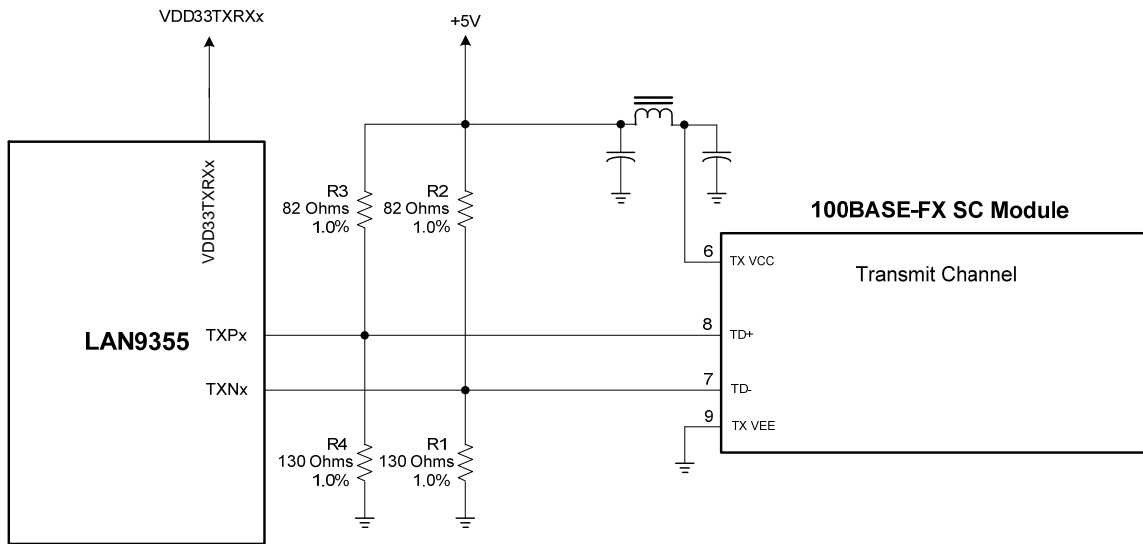

Figure 13 – Fiber Transmit Channel Connections
3. For Port A, Fiber Transmit Channel connection details, refer to Figure 13.
3. For Port B, Fiber Transmit Channel connection details, refer to Figure 13.